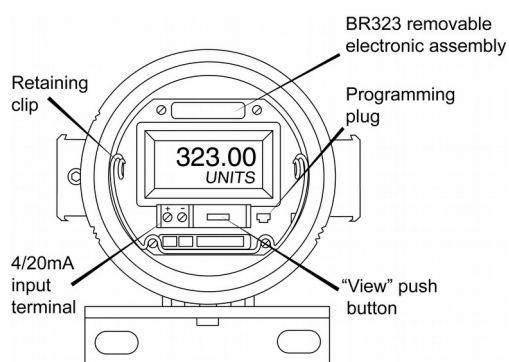

Fig 1 BR323AL or BR323SS without cover
- Remove the BR323 electronic assembly from the enclosure by gently squeezing the retaining clip and pulling – see Fig 1. If necessary remove the screw securing the earthing wire connecting the electronic assembly to the enclosure.
- Position the electronic assembly in the flameproof enclosure and connect the two input terminals as shown in Figs 1 and 4. If removed, the earthing cable should be reconnected between the electronic assembly and the flameproof enclosure.